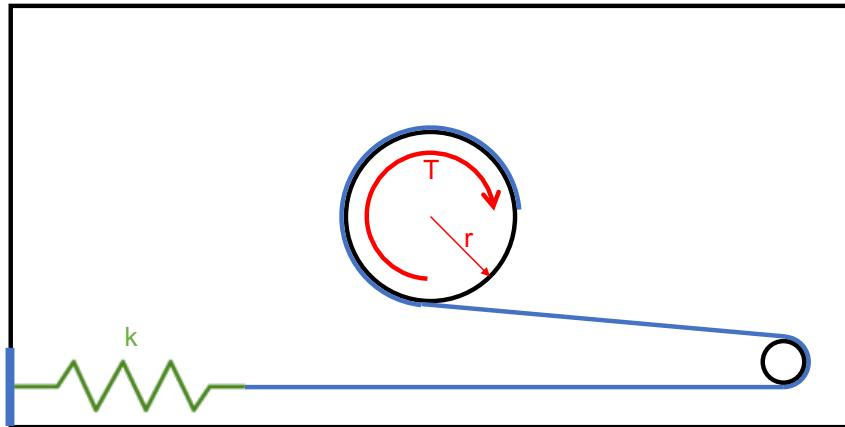

Figure 4.6: Torque analysis schematic.
1. Consider the situation described in Figure 4.6. A blue string is attached to a black disc with radius r and - passing over a return pully - to a green spring with spring constant k . The black disc is fastened to a servo motor with torque T . Using the values: $k = 500\text{N/m}$, $r = 0.02\text{m}$ as well as the torque of the servo that you can find on the datasheet and neglecting friction, how far should you be able to stretch the spring, before the servo stalls? (**PostLab Q2**)